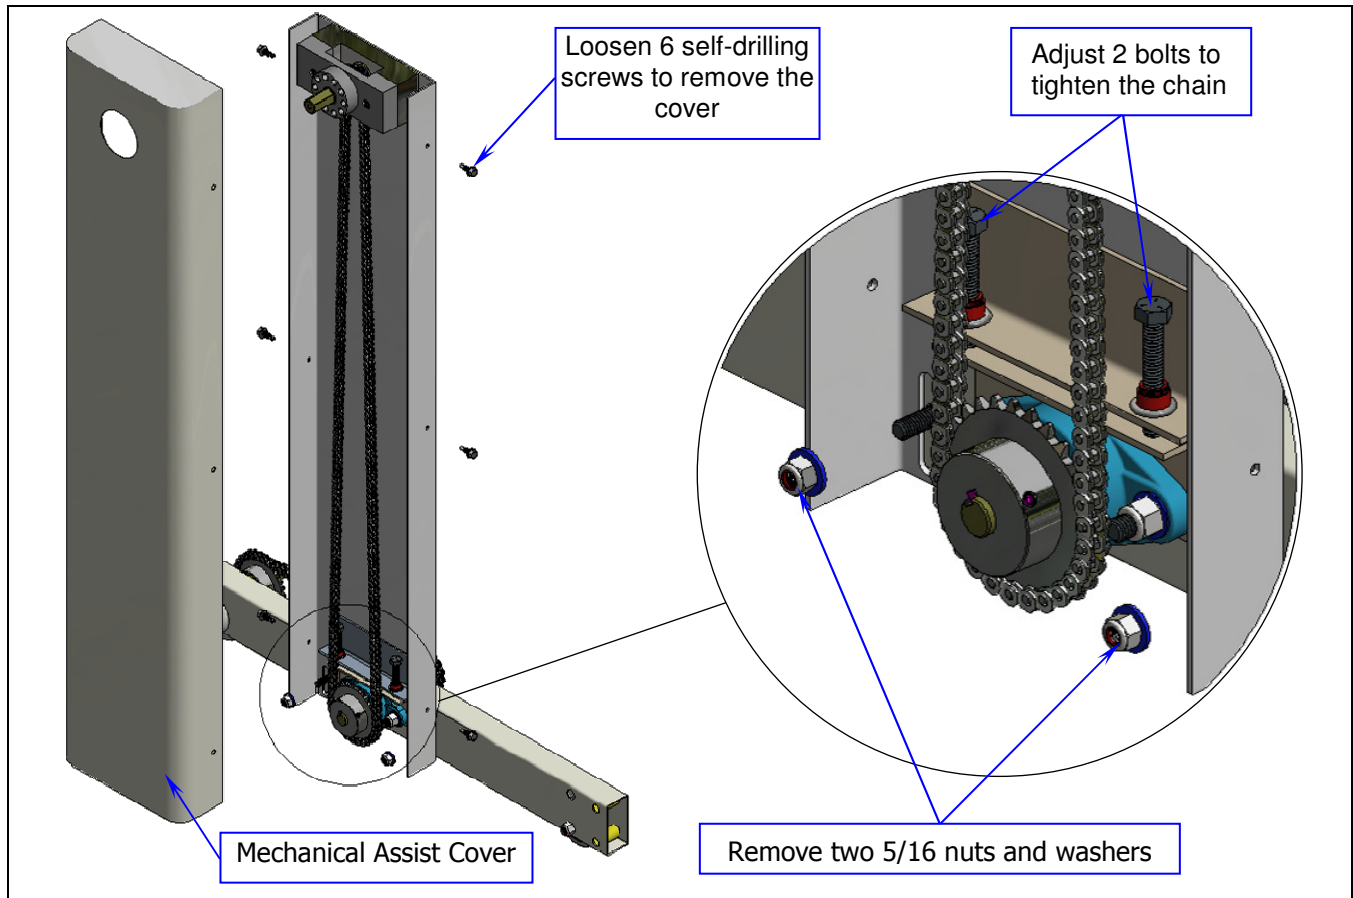

Figure 2: Mechanical Assist Installation and Chain adjustment
2. Attach the **Mechanical Assist** to the mobile base **MEW front drive** sprocket on the outside. Remove the two 5/16 inch locking nuts and washers from each side of the sprocket, as shown in **Figure 2**. Place the Mechanical Assist with the slots at the bottom over the 5/16 inch
3. Place the chain over the sprocket on the front drive. Use the two adjusting bolts inserted in the rivet nuts (captive nuts) to tighten the chain. There should be a little give to the chain. Now tighten the two 5/16" locking nuts and washers. See **Figure 2** below.